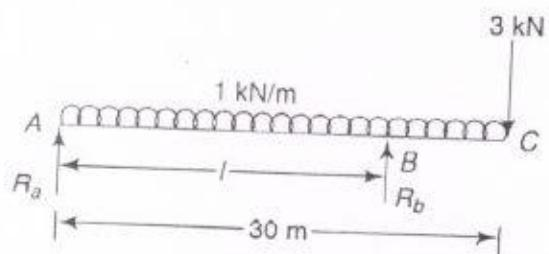

Fig. 5
Q.4. B Draw SF and BM diagram for the beam shown in Fig. 5 and identify the point of maximum bending moment.